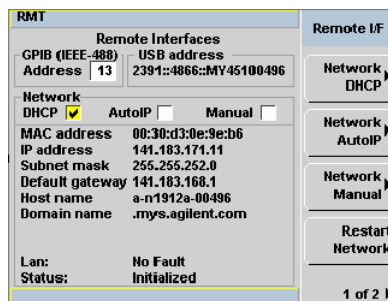

Figure 1-3 Typical LAN remote interface
- 3 Press  , **Remote Interfaces** to display the Remote Interface display (see Figure 1-3). Ensure that AutoIP is checked.
- 2 Press , **Remote Interfaces** to display the Remote Interface display (see Figure 1-3).